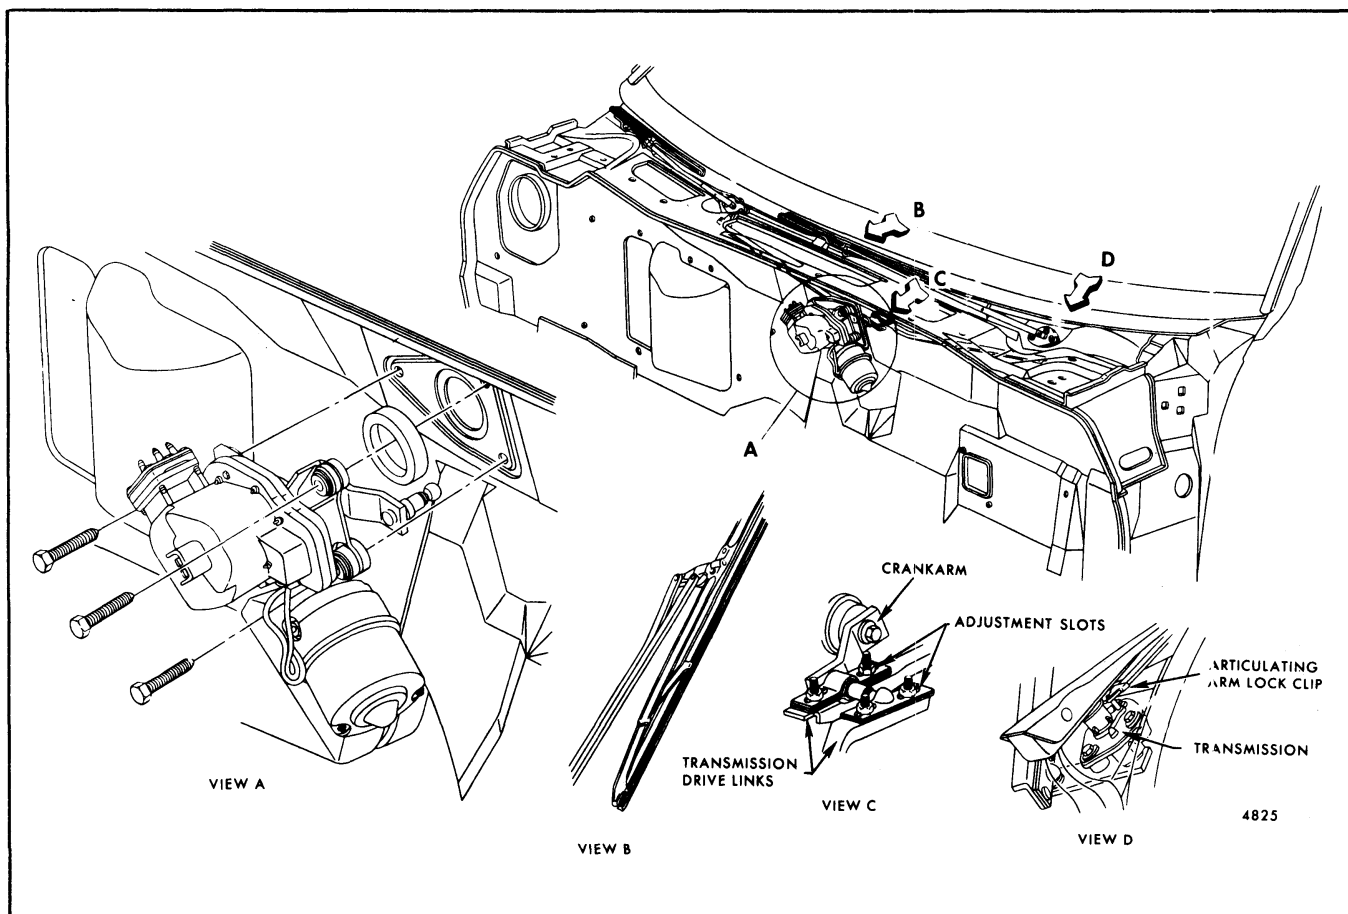

Fig. 2-32-Round Motor Installation - "B-C-D-E" Styles
2. Reaching through opening, loosen the transmission drive link to crankarm attaching nuts (Fig. 2-32 or 2-33).
5. On left arm, slide articulating arm lock clip away from transmission pivot pin (Fig. 2-32) and lift arm off pin.
3. Loosen, do not remove, the transmission drive link to motor crankarm attaching nuts (Fig. 2-32
3. Loosen (do not remove) attaching nuts securing transmission drive link(s) to motor crankarm (Fig. 2-32 or 2-33).
9. Install transmission drive link(s) to motor crankarm and tighten attaching nuts to 25-35 inch pounds torque (Fig. 2-32 or 2-33).